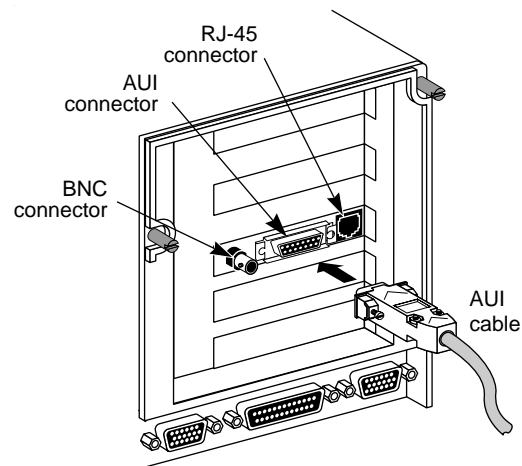

Figure 2-5 Connecting the AUI Cable
- 2 Connect the AUI cable or transceiver to the AUI connector on the adapter, as shown in Figure 2-5.